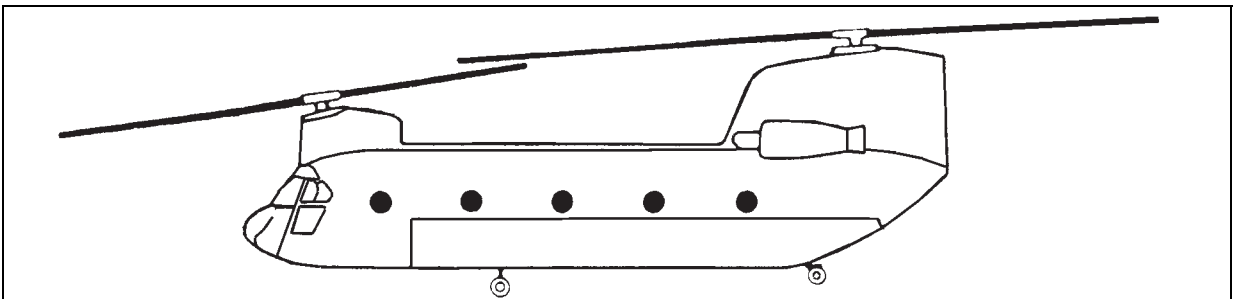

Figure 2-12. CH-47 Chinook
- H-47.** The H-47 Chinook (figure 2-12) is a twin engine, tandem rotor helicopter manufactured by the Boeing Helicopter Company. The primary mission of the Chinook is to deliver personnel, supplies, and equipment. The flight engineer lies on the floor and guides the pilot by giving him directions to help him position the aircraft directly over the load.